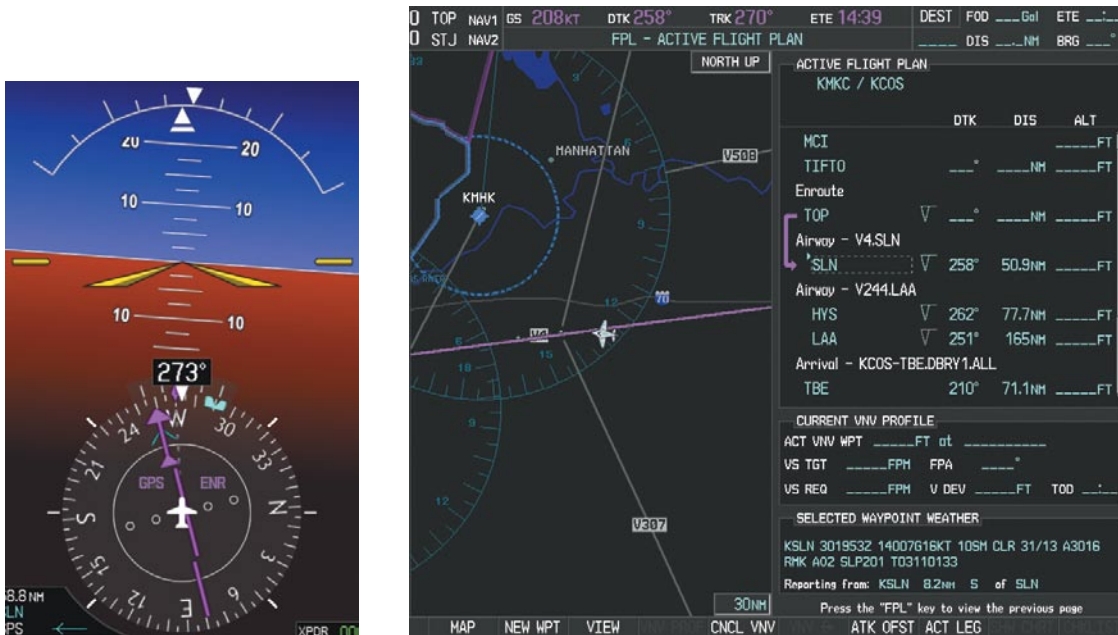

Figure 5-117 Turn on to Active Leg
7) As the CDI approaches center, the aircraft turns onto the active leg as seen in Figure 5-117.